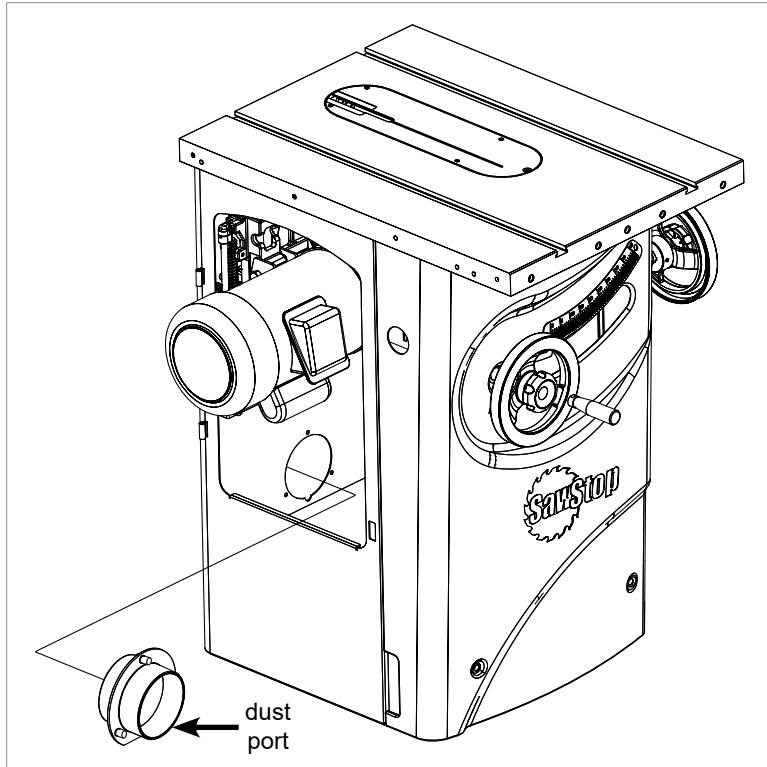

Fig. 20
4. The dust port comes attached to the end of a flexible hose residing within the cabinet. Notice that there is a small semicircle on the dust port flange (see Fig. 19). The dust port must be inserted into the four inch diameter hole at the back of the cabinet from the inside of the cabinet as shown in Fig. 20. The semicircle acts as a key to correctly orient the dust port. The hardware required to install the dust port is located in the area with the green background on the Table Saw Hardware Pack. Remove the three dust port screws and lock washers from the Table Saw Hardware Pack and place a lock washer on each screw. Keep the screws nearby.